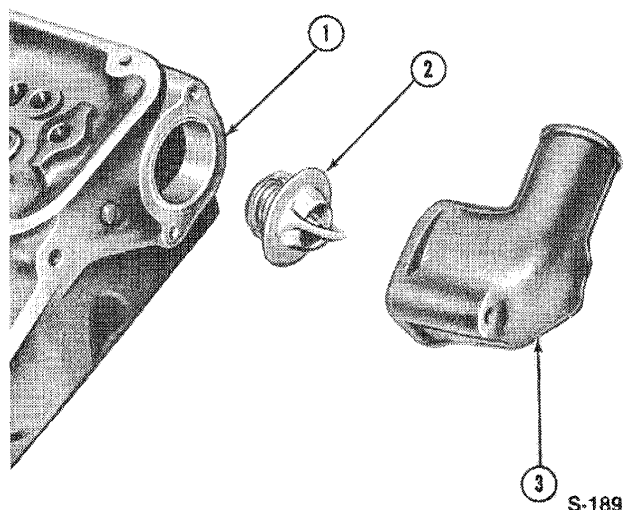
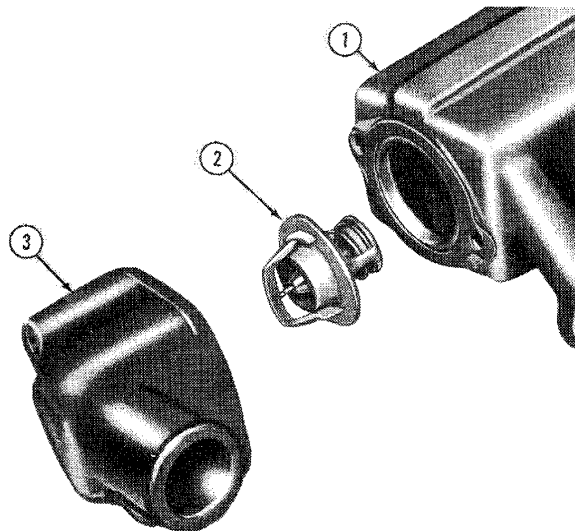

**Figure 7**
**Figure 8**
1. Remove the coolant outlet connection and the thermostat and gasket, from the diesel cylinder head, Figure 7, or the gasoline engine intake manifold, Figure 8.